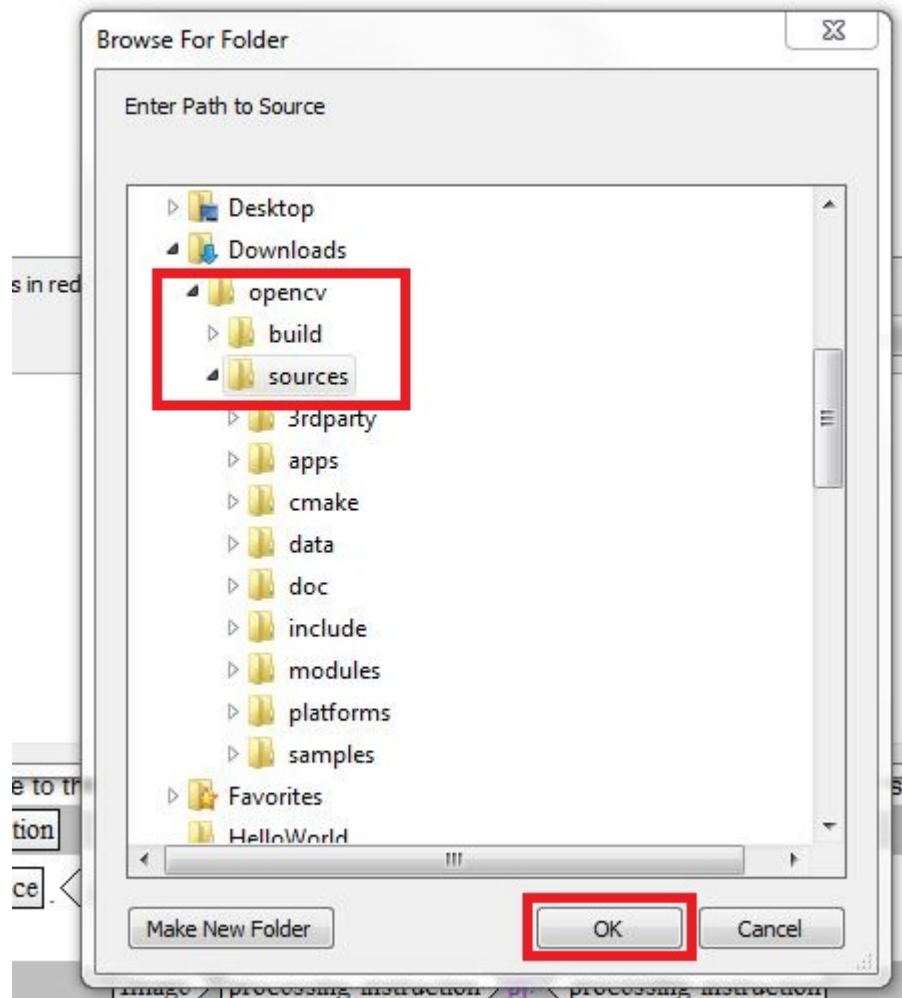

Figure 4-22. OpenCV Source Selection In Cmake
12. Browse to the /opencv/sources folder installed in step 3. Click the /sources folder as highlighted in Figure 4-22, then click the **OK** button.